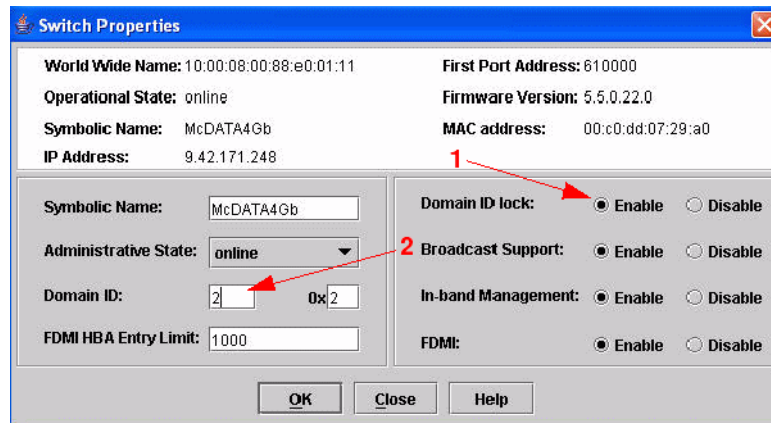

Figure 6-5 Switch Properties window
- From the Switch Properties dialog (Figure 6-5), enter a symbolic name for your switch. Click the **Enable** radio button next to Domain ID lock (1). Enter a Unique Domain ID ranging from 1-31 (2). In our example, we selected 2 for the DID. Click **OK** to continue.